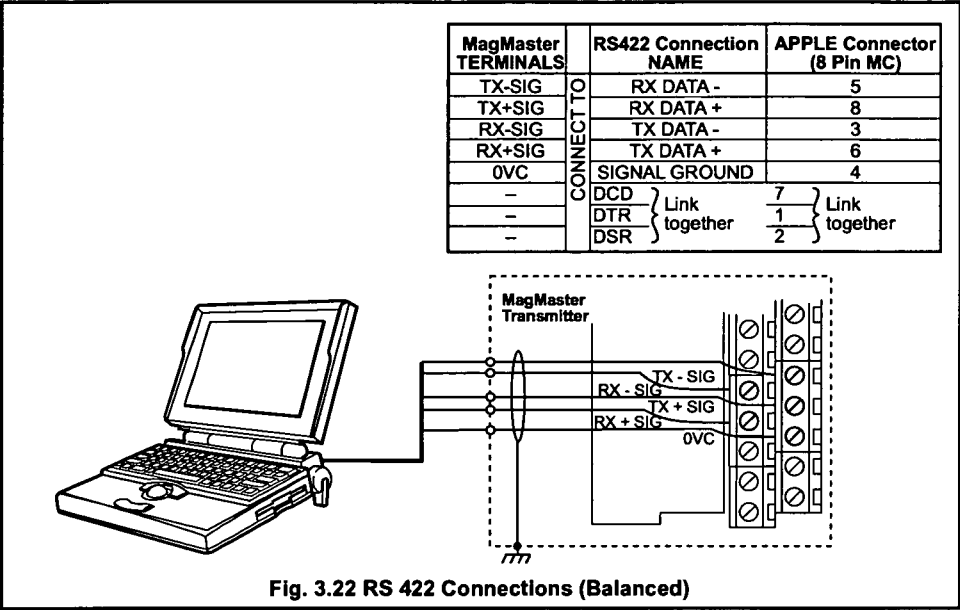

Fig. 3.22 RS 422 Connections (Balanced)
3.4.6 Computer Connection – Fig. 3.22 and 3.23